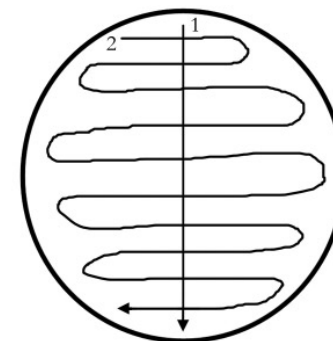

Figure 3
**Urine samples only - inoculate the agar using a calibrated loop (0.01 ml) by dipping the loop into the urine and (A) dragging the loop down the middle of the agar. Using a calibrated loop allows the technician to do a colony count.**
Using the sterile microbiology loop, (B) streak back and forth across the inoculated area. (Figure 3)